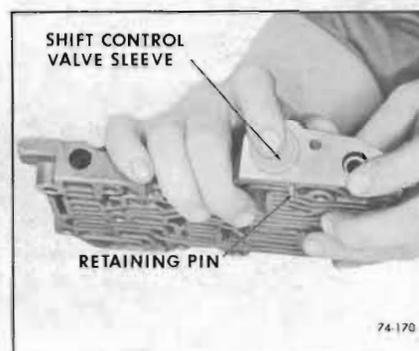

Figure 74-170
2. Depress shift control valve sleeve and remove retaining pin. Remove shift control valve sleeve, retainer shift control valve, spring, washer, and shift valve. See Figure 74-170.